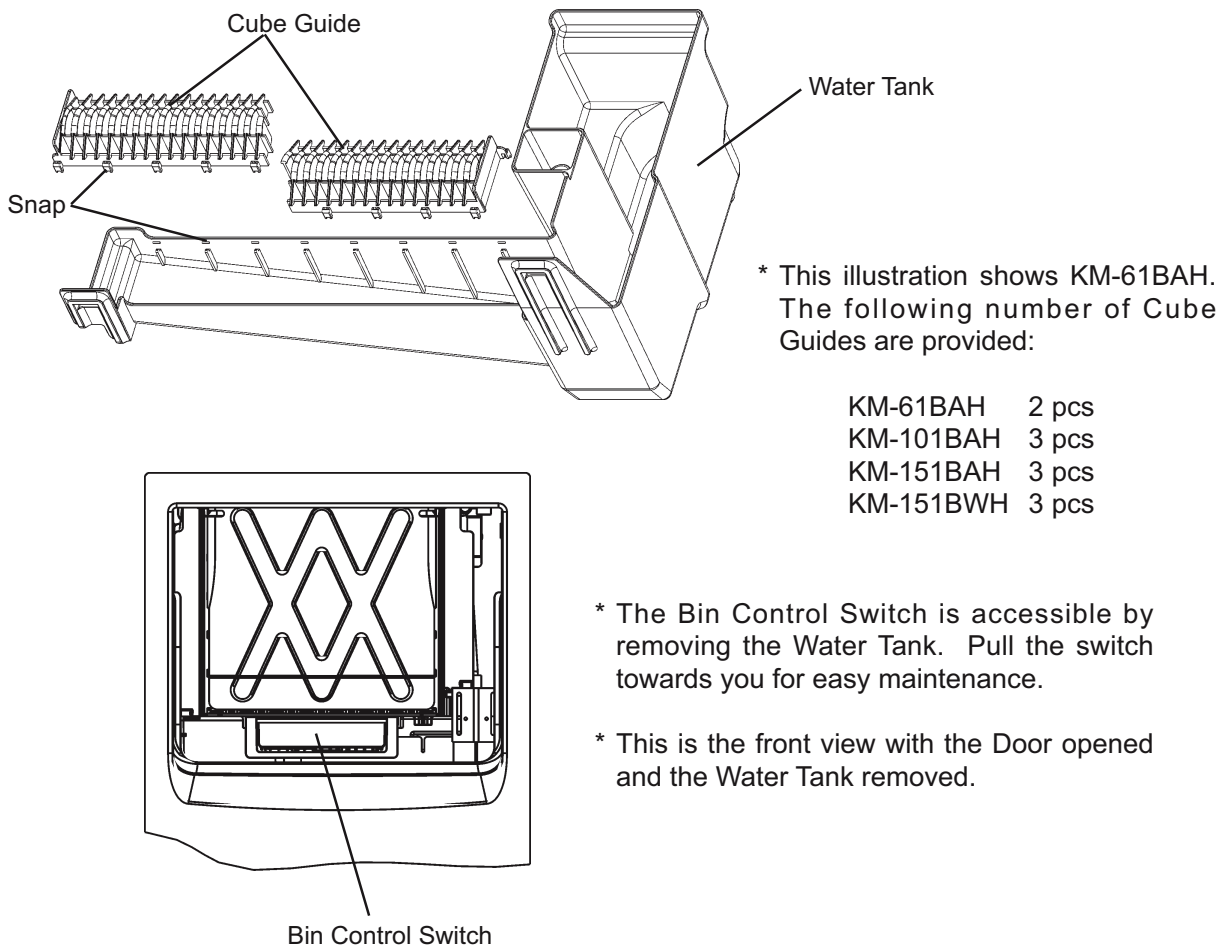

Fig. 8
- 14) Pull the Cube Guides (quantity varies depending on model) upward to remove them from the Water Tank. They are snapped in place. See Fig. 8.